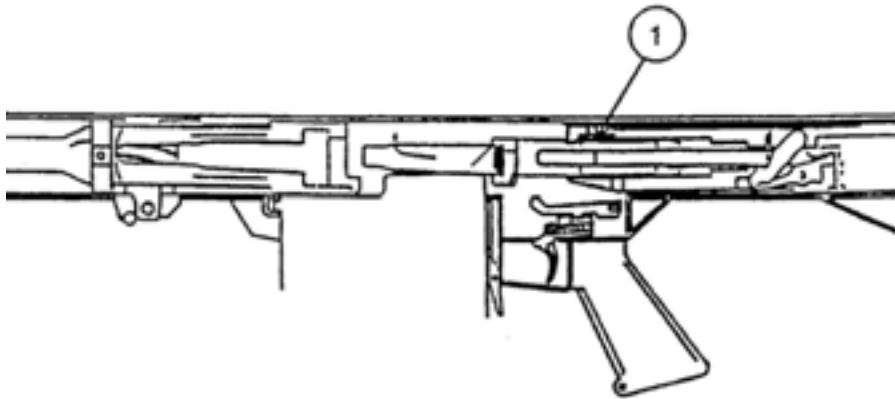
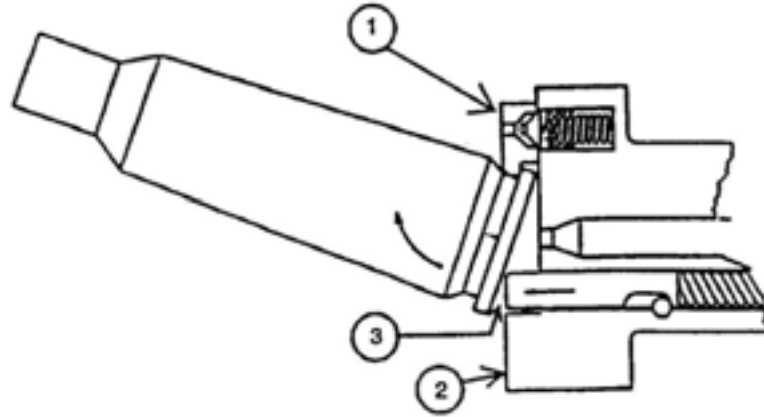

Figure 1-10. Extraction Procedures
Figure 1-11. Ejection Procedures
1.3.8 EXTRACTION. As the bolt locking lugs rotate away from the barrel extension, the bolt withdraws from the barrel and the bolt latch (1), Figure 1-10, locks the bolt in its extended position. The extractor (1), Figure 1-11, located on the bolt face (2) and hooked over the rim of the fired case, pulls the case from the firing chamber.